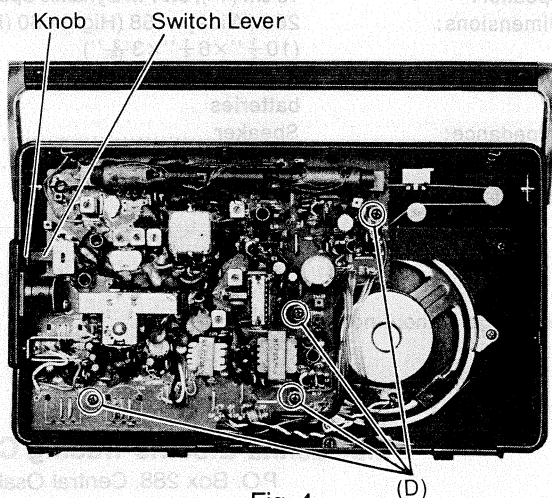

Fig. 4
- ※ 3. Insert the switch lever in the knob as shown in fig. 4.